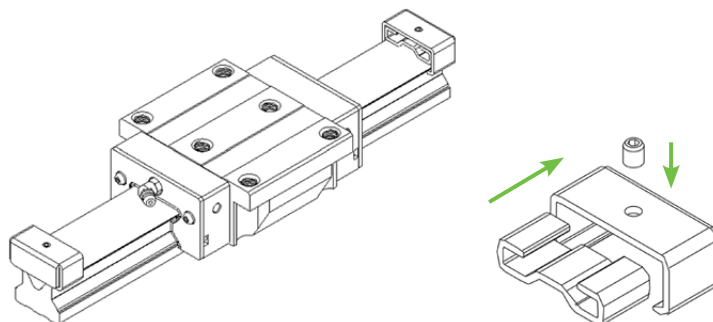

Fig. 5.23 Metal protective cap
- In order to prevent the cover strip from being lifted off, install the protective caps on both end faces of the profile rail in the last step (see Fig. 5.23).